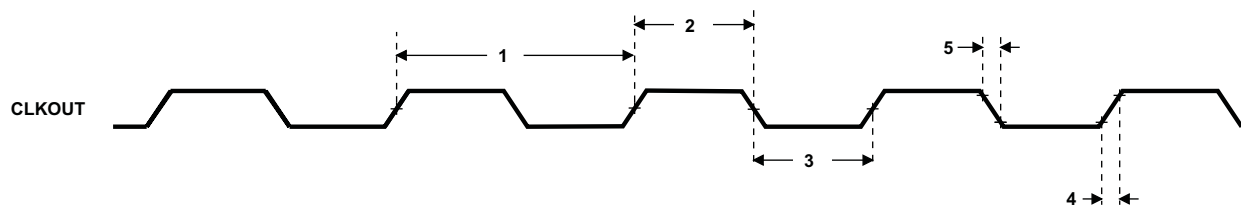

Figure 5-18. CLKOUT Timing
Table 5-11. Switching Characteristics Over Recommended Operating Conditions for CLKOUT [I/O = 3.3/2.75 V]^{(1) (2)} (see Figure 5-18)
(see Figure 5-18)